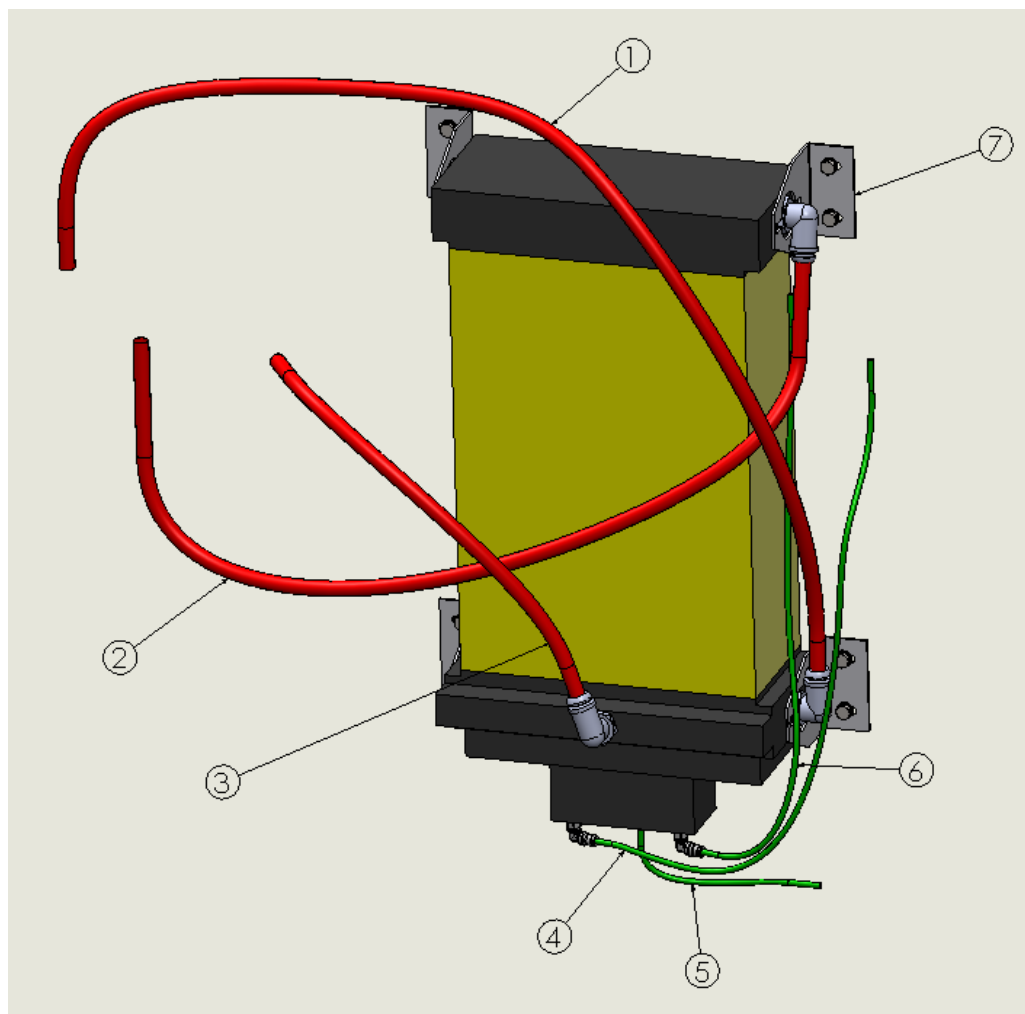

Figure 12 Hoses to disconnect when removing the dryer unit from the E Compressor
Disconnect nylon tubing from push in elbow connectors, **Figure 12 (1,2,3,4,5,and 6)**, first marking the tube and connection (see details of Dryer drawing). This will allow the 5th stage purifier to be removed. Remove 8 M6 bolts, washers and nuts from brackets (7) detaching the purifier from the base plate. Caution, hold purifier when removing the last bolt to avoid the assembly falling out and causing injury. Carefully maneuver dryer until it is clear of cabinet (the 5th stage purifier weighs 21.2 Kg).